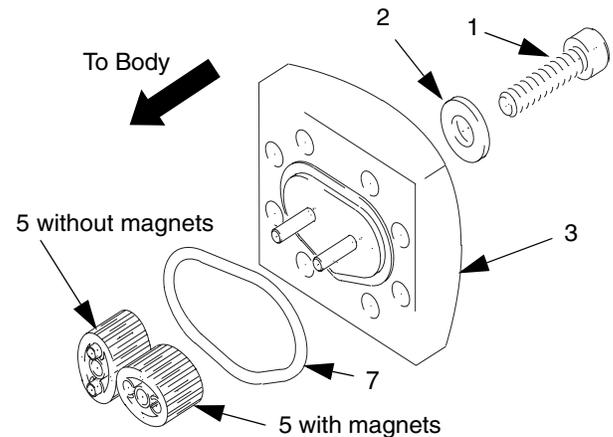

Fig. 6
1. Unscrew the eight cover fastening screws (1) and slide out the washers (2). See Fig. 6.
2. Remove the cover (3) and o-ring (7).
3. Remove the two oval gears (5).
5. Replace the two oval gears (5)
Only one of the gears has magnets. It must be re-installed with magnets facing the Accu-Shot body as shown in Fig. 6. Fit the second gear (without magnets) with its largest axis at right angles to the first gear. Torque to 10 Nm (7.38 ft.- lbs).